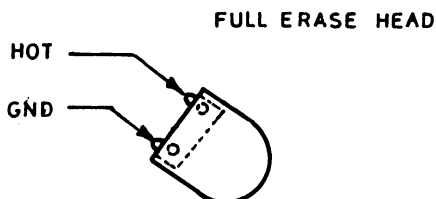

Fig. 11.25
2. Connect the oscilloscope to the Full Erase head as shown in fig. 11.25